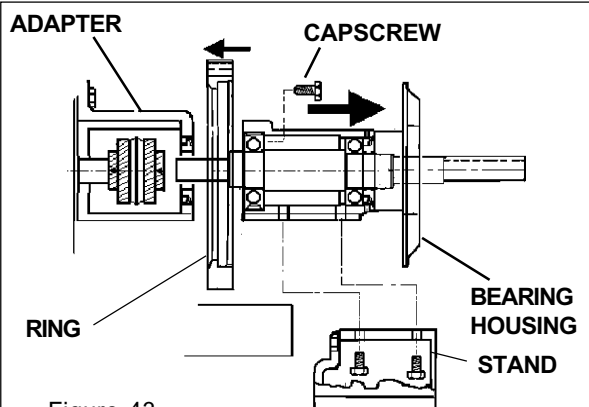

Figure 43
3. Remove the capscrews from adapter. Slide bearing housing and stand off base. Remove stand to adapter capscrews and remove stand. (Figure 43)
3. Push the shaft and bearing assembly out of the bearing housing from the impeller end. (Figure 43)
4. Slide the ring off bearing housing. (Figure 43)